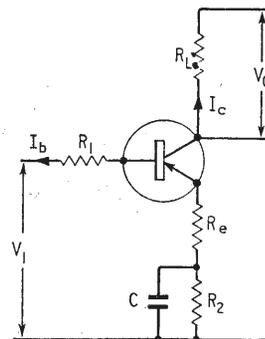
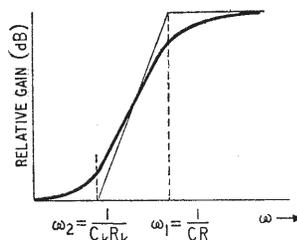

Fig. 5. Transistor stage with emitter by-pass capacitor  $C$ .
Fig. 6. Variation with frequency of transistor stage gain.
Now suppose that  $Z_L$  is a resistor  $R_L$ ,  $Z_1$  is a resistor  $R_1$  and  $Z_e$  comprises a resistor  $R_2$  in parallel with a capacitor  $C$ , both in series with a resistor  $R_e$  as shown in Fig. 5. Thus :-
By substituting the various component values into equation (14), we can obtain an expression for the voltage gain of Fig. 5. :-
The imaginary resistor  $R$  can be thought of as a resistor  $R_2$  shunted by the series combination of  $R_e$  and  $(1 - \alpha)R_1$ . The frequency response obtained with the arrangement of Fig. 5 can be plotted as shown in Fig. 6. In this case :-